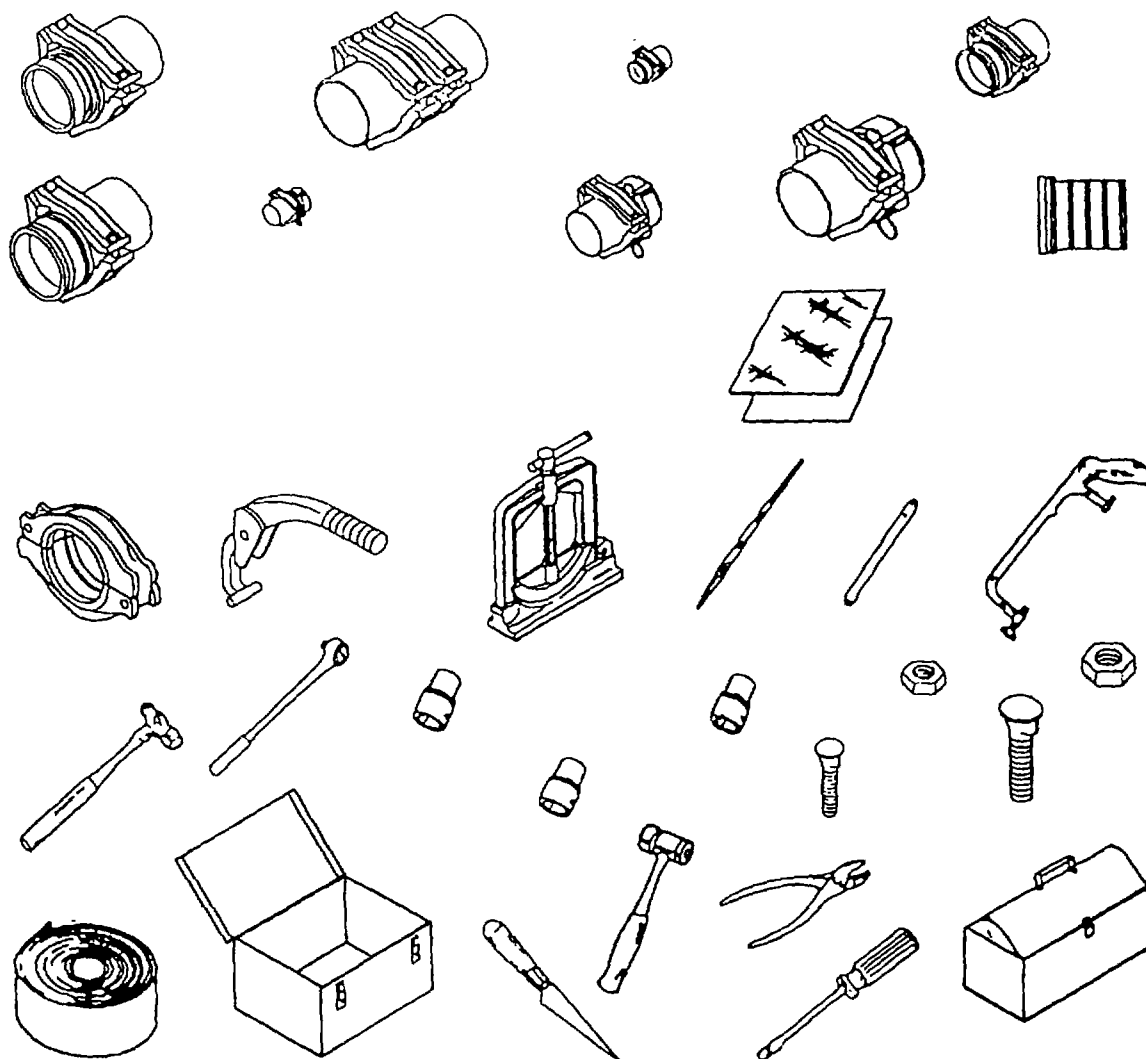

Figure 1-15. Repair Kit
(18) REPAIR KIT (Figure 1-15). Used to repair hoseline.